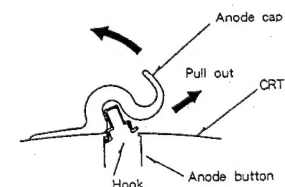

Fig. 4
- (6) Turn over the anode cap on the side where the hook was released and pull out the cap in the direction opposite to that in which the cap was pushed. (See Figure 4)